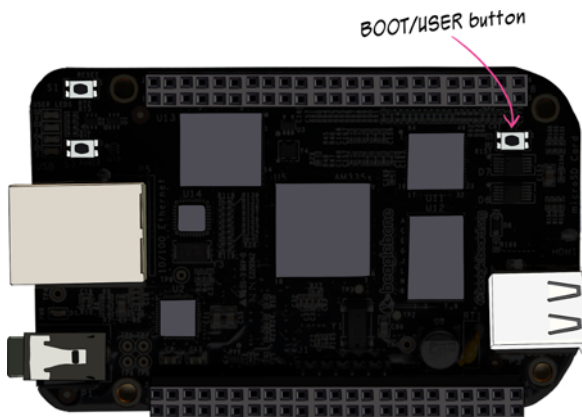

Figure 11.23 The BOOT/USER button on the BeagleBone Black
- 3 Plug the Arduino Uno—connected to the BMP180 as in figure 11.23—into one of the Pi’s four USB ports.
- 4 Now power down the BeagleBone Black. With the SD card still inserted, hold down the BOOT/USER button (figure 11.23) and reconnect the power. Keep holding the button down for a few more seconds until all of the onboard LEDs light up solid for a moment. Then you can let the button go.